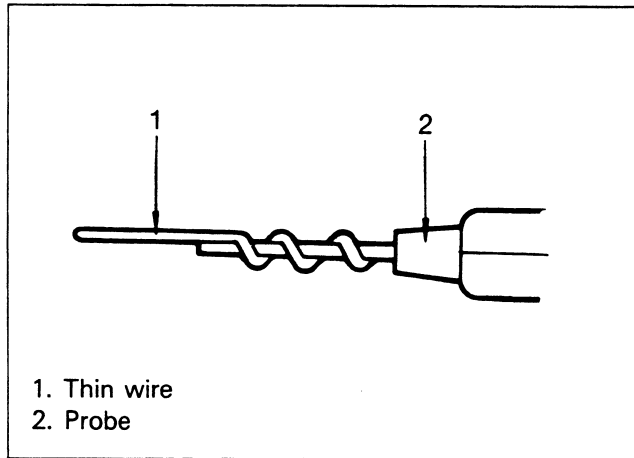

Figure 12. Inspection Tool
Wrap a piece of thin wire (1) around the probe of tester (2) (figure 12).